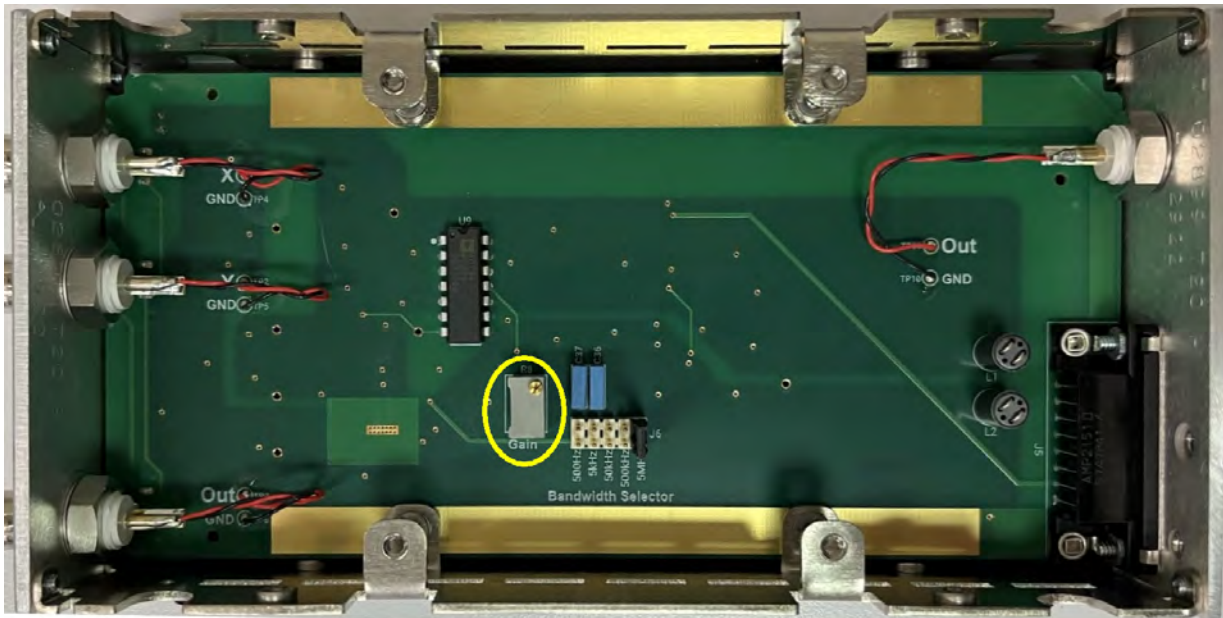

Figure 2.3: Gain trimmer, R8
- Remove the right hand cover, and locate R8 (the Gain trim pot). See Figure 2.3. Be sure you have access to adjust this trimmer as described above.